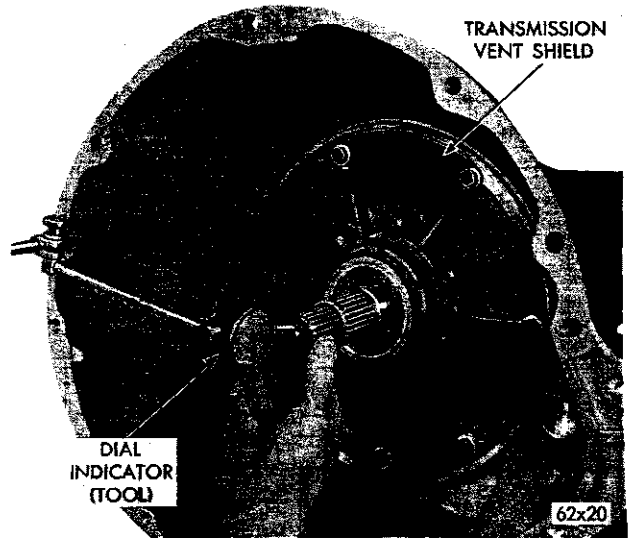

Fig. 50—Measuring Drive Train End Play
(1) Attach a dial indicator to the transmission bell housing with its plunger seated against the end of input shaft (Fig. 50).